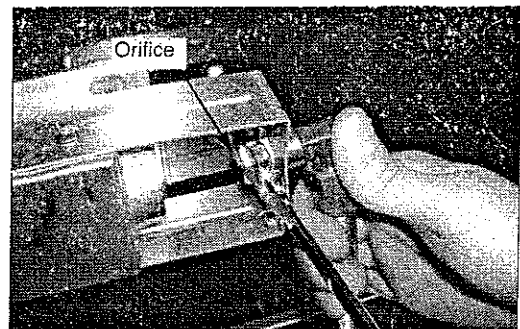

Fig 28
4. Use the 9/16" wrench to remove the LP orifice. (See Fig. 28)
5. Install the NG orifice. (See Fig. 28)